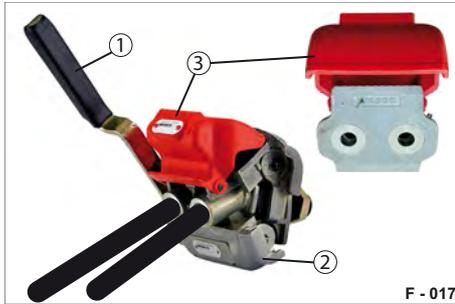

Fig. 23 Duo-Matic, uncoupled
- ▶ Pull the handle (Fig. 23/1) of the Duo-Matic quick-release coupling socket upwards and pull out the Duo-Matic coupling head (Fig. 23/3) from under the protective cover.